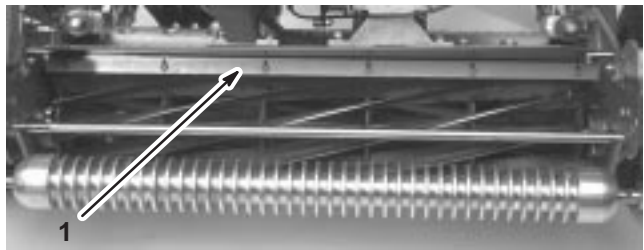

Figure 18
- Loosen the screws securing the top bar (Fig. 18) to the cutting unit.